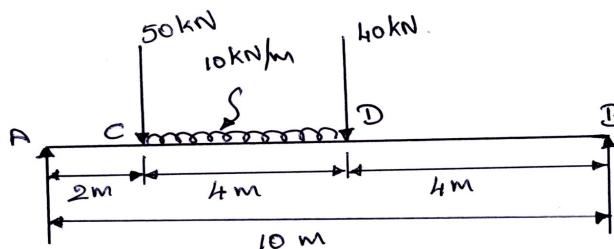

Fig.Q.6(b)
- b. A simply supported beam of length 10m, carries the uniformly distributed load and two point loads as shown in Fig.Q.6(b). Draw SFD and BMD for the beam. Also calculate the maximum BM. (12 Marks)